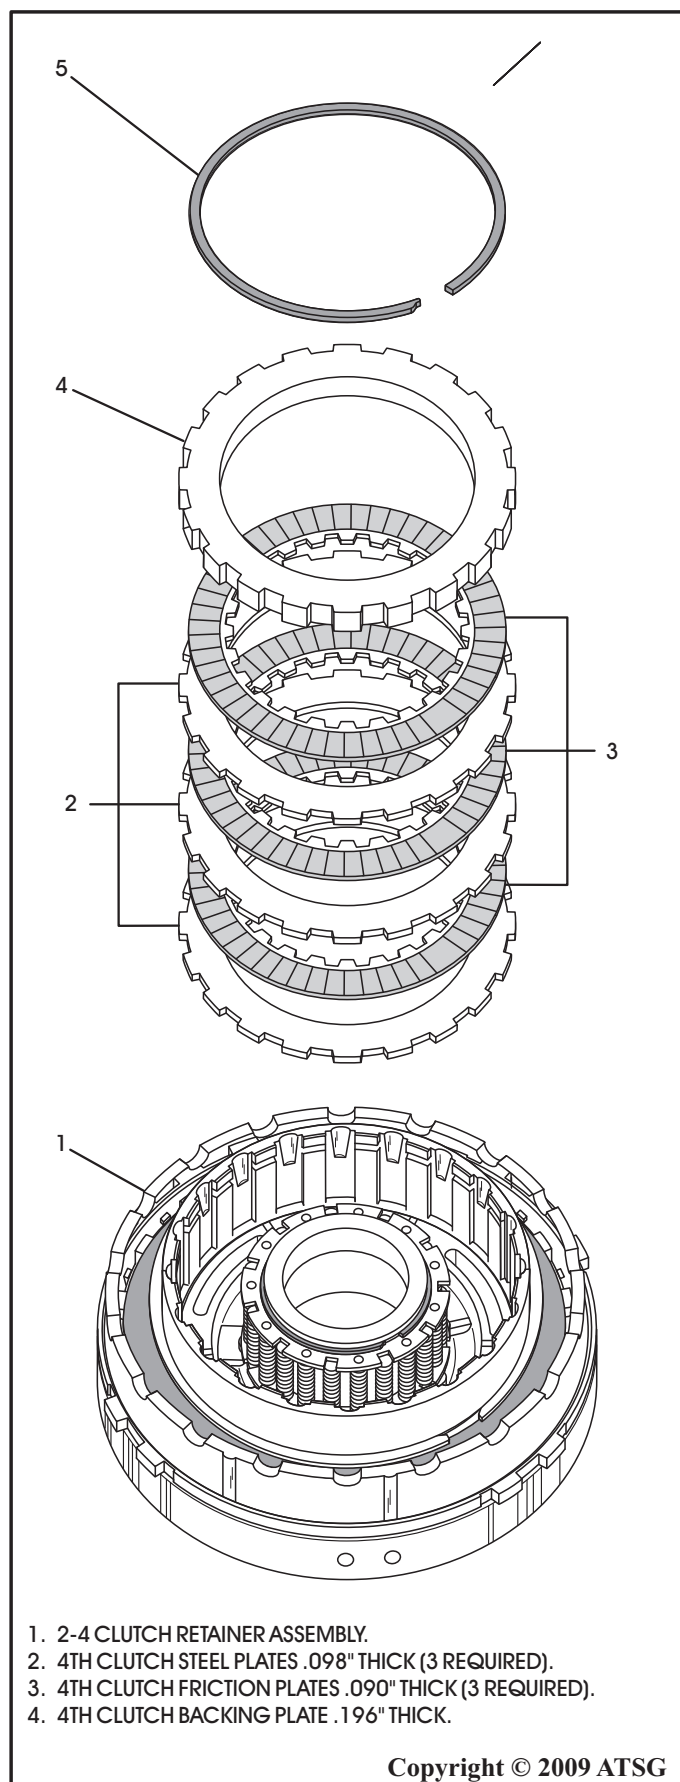

Figure 66
14. Install the 4th clutch pack beginning with a steel plate and alternating with friction plate until you have installed three of each plate, as shown in Figure 66.
15. Install the 4th clutch backing plate, as shown in Figure 66. This plate is non-directional and will go in either way.
16. Install the 4th clutch backing plate selective snap ring as shown in Figure 66, and ensure that it is fully seated.